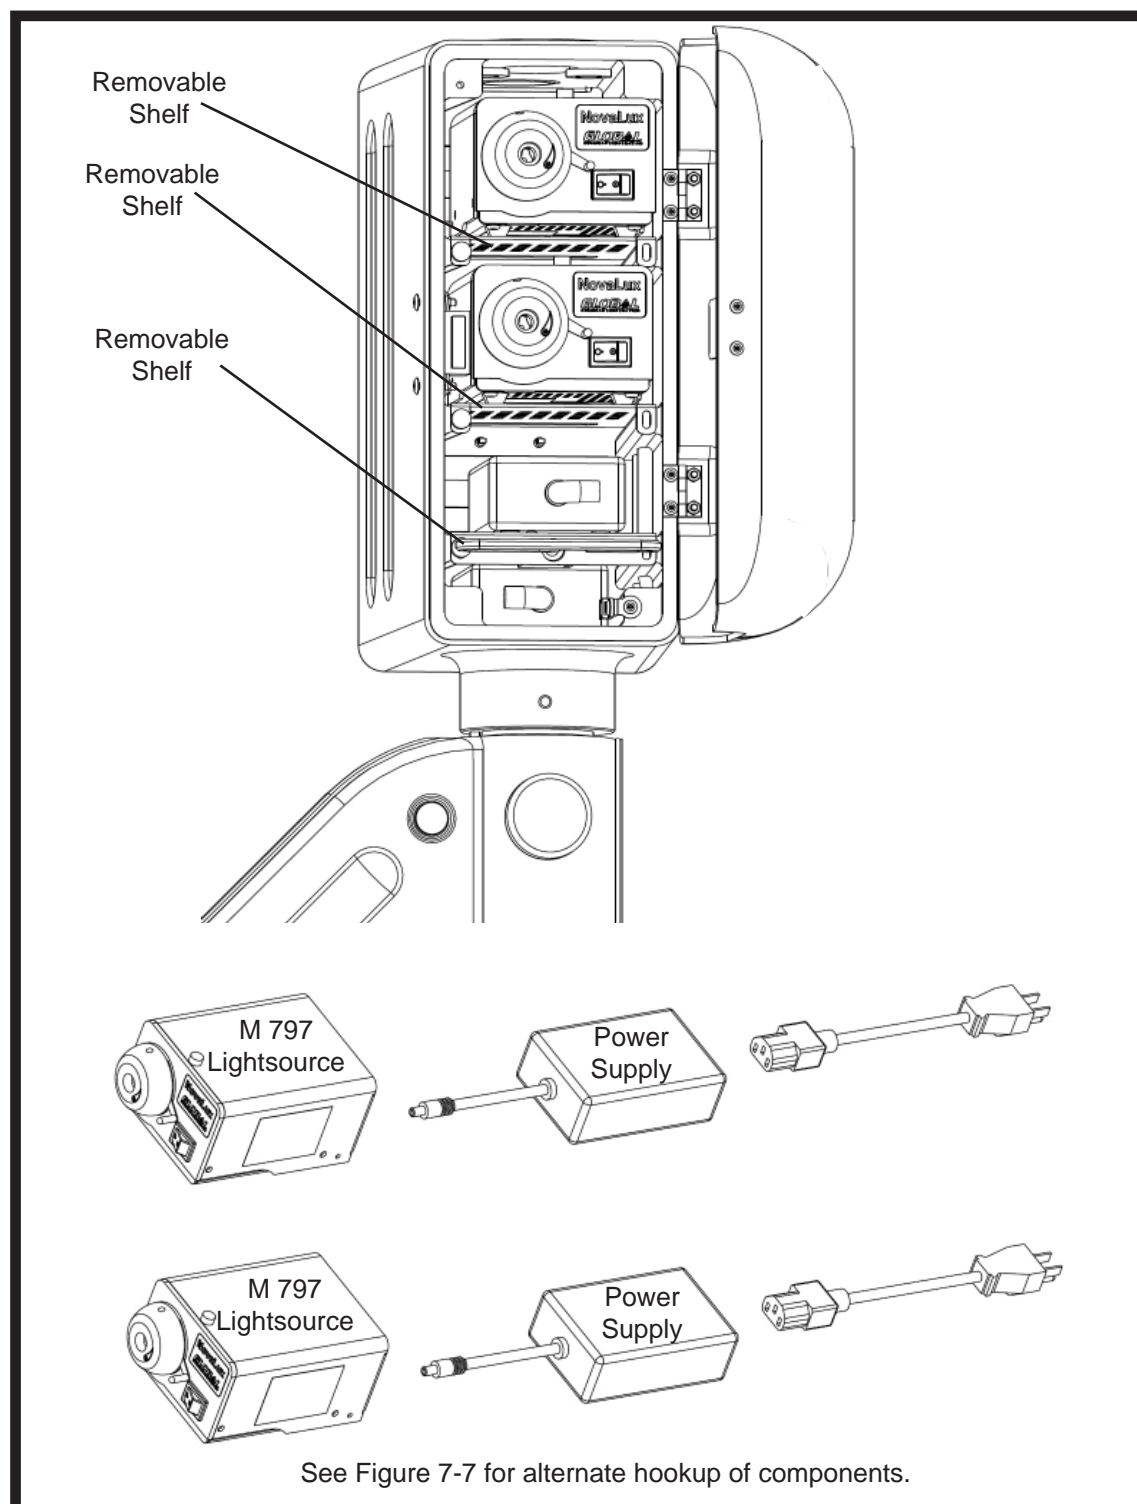

Figure 7-5. Lightsource Housing with Two M 797 Lightsources for Ceiling Mount and High Wallmount
The configuration used in Figure 7-5 shows the usage of two (2) M 797-725 NovaLux Lightsources as installed in the Ceiling Mount and High Wallmount. The schematic at the bottom shows the cable hookup.